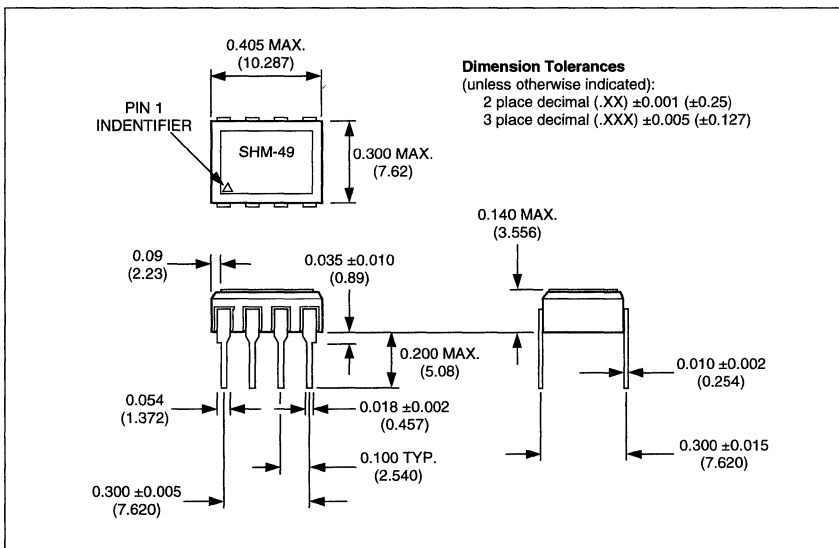

**Figure 2. Offset and Gain Adjustments**
- Gain and offset adjusting can be accomplished using the external circuitry shown in Figure 2. Adjust offset with a 0V input. Adjust gain with a ±FS input. Adjust so that the output in the hold mode matches the input.